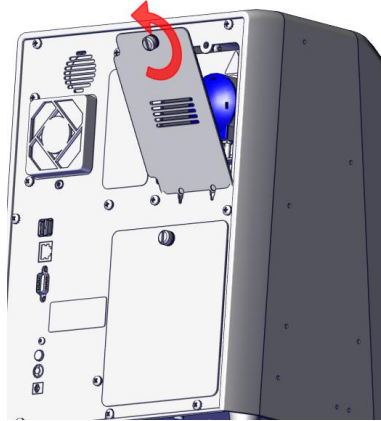

Figure 2
1. Remove the Wash Pump Access Door (located on back of instrument) by turning the Thumb Screw counterclockwise and pulling the door outwards and upwards. See Figure 2.